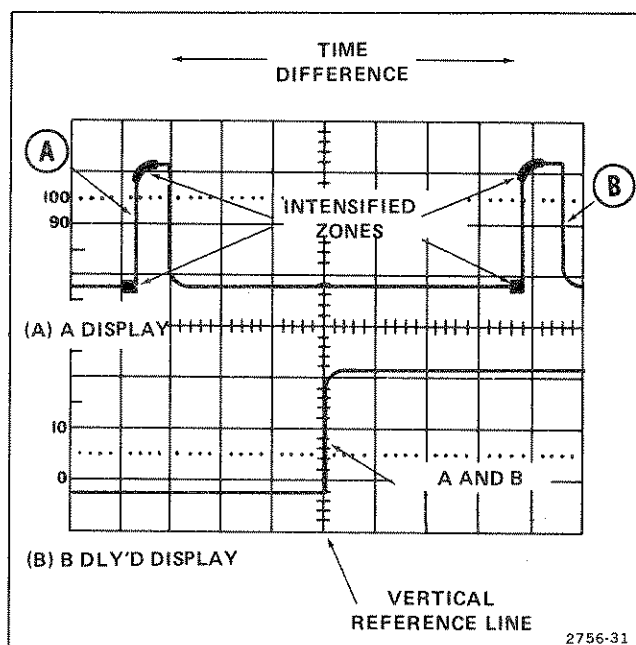

Figure 6-15. Time difference between repetitive pulses.
5. Select the ALT horizontal mode and set the SEC/DIV switch to the fastest B sweep that provides a usable (visible) intensified zone. Adjust the TRACE SEP control to center the B sweep display around the 10% horizontal graticule line. With the DELAY control, move the intensified zone to the first pulse (see Figure 6-15, Point A).
EXAMPLE: The first DELAY readout value is  $1.310 \mu\text{s}$  and the second is  $8.810 \mu\text{s}$  (see Figure 6-15).